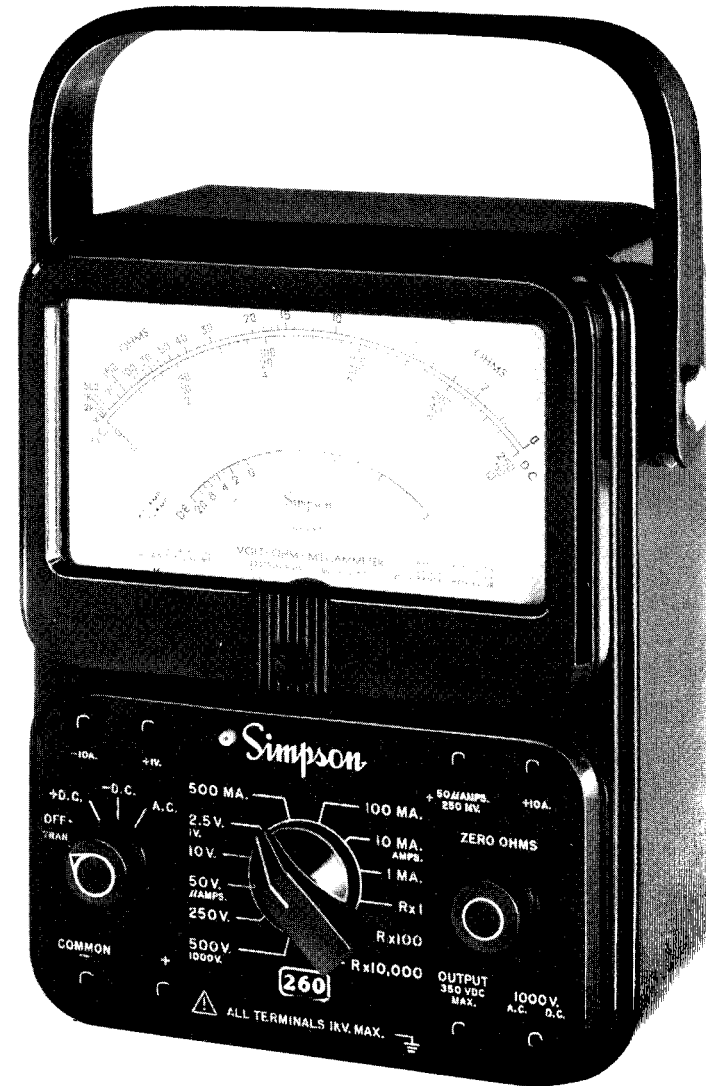

FIGURE 1-1. SIMPSON 260-7P VOLT-OHM-MILLIAMMETER
**1.1.1** The Simpson Volt-Ohm-Milliammeters 260 Series 7P and Series 7PM (hereafter referred to as the 260 or as the Instrument), are identical instruments electrically and mechanically, except that the Series 7PM is equipped with a mirrored dial to eliminate parallax (Figures 1-1 and 1-2). The 260 Series 7P is a rugged, accurate, compact, easy-to-use instrument. The Instrument can be used to make accurate measurements of AC and DC voltage, direct current, resistance, decibels, and Output Voltage. The Output Voltage function is used for measuring the AC component of a mixture of AC and DC voltage. This occurs primarily in amplifier circuits.